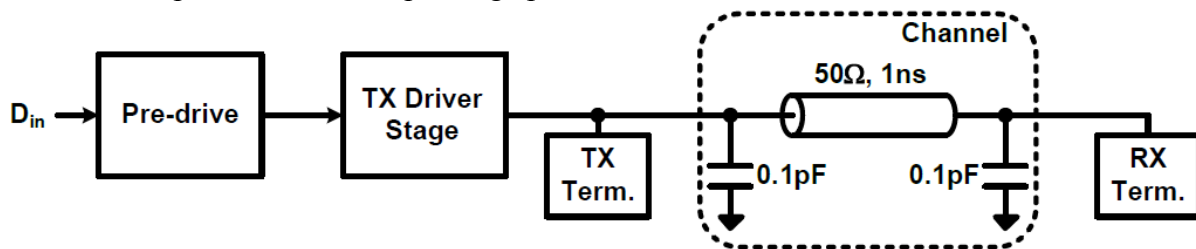

Figure 12 Schematic of the Link Circuit
- c. The driver should be terminated on-chip both at the transmitter and the receiver as shown in Figure 12. The termination should be designed to handle a temperature variation from 0 to 100°C **OR a variation of $\pm 30\%$ from the nominal 27°C value if the temperature variation simulation doesn't work**. Passive termination may be used, however a realistic model including parasitic capacitance must be used, i.e., from a design kit or taken from the table in lecture 5. Choose whichever termination scheme you think is most appropriate (AC vs DC-coupled, single-ended vs differential) and briefly explain your choice.